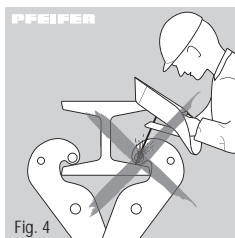

Fig. 4
- Welding work on the beam clamp is forbidden (Fig. 4).